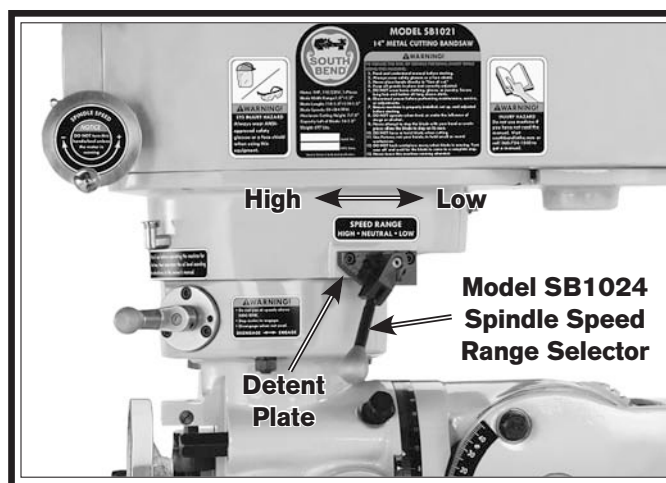

Figure 32. Model SB1024 spindle speed range selector.
3. Press the spindle speed range lever shown in **Figure 32** toward the head to release the detent pin from the detent plate, move selector so that the pin is over the other detent, then release the selector.